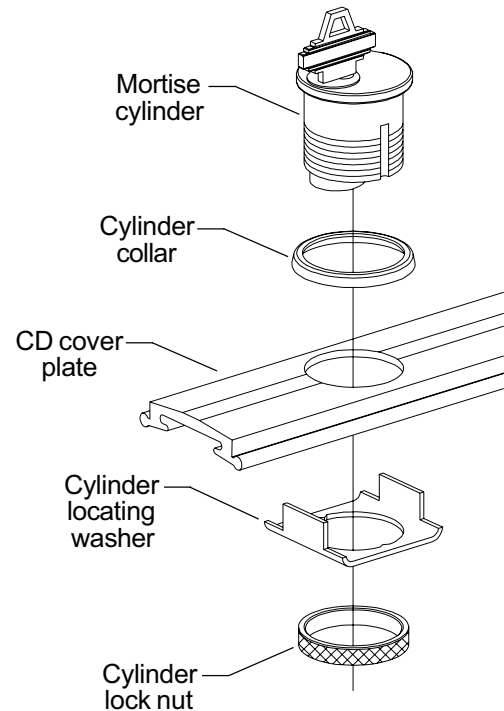

Figure 3-3
- 3.3. Assemble mortise cylinder and cylinder collar into CD cover plate, then install cylinder locating washer and secure cylinder with cylinder lock nut (Figure 3-3).